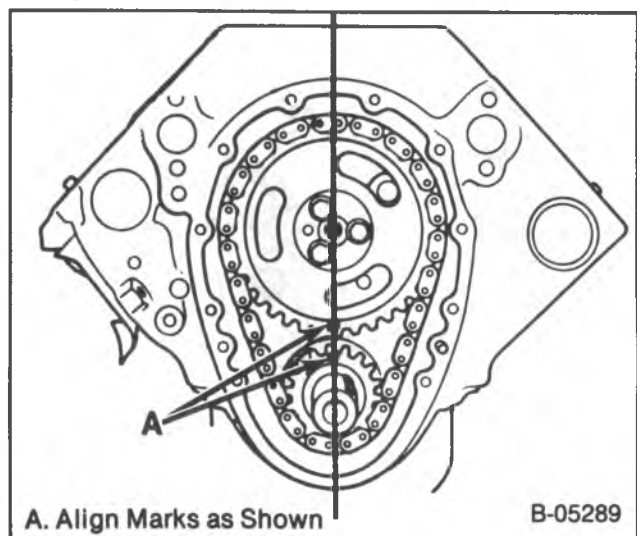

Figure 24 — Timing Marks
↔ Remove or Disconnect (Figures 24, 25, and 26)
- Align the timing marks (figure 24).
Install or Connect (Figures 24, 25, and 26)
- Line up the timing marks on the camshaft sprocket and crankshaft sprocket (figure 24).